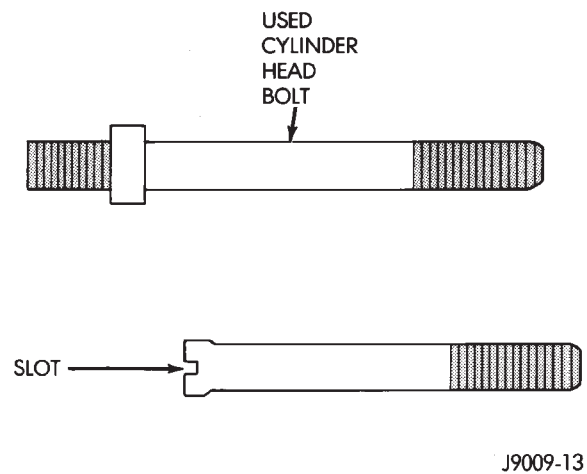

Fig. 4 Fabricate Alignment Dowels
- (1) Fabricate two engine cylinder head alignment dowels from used head bolts (Fig. 4). Use the longest head bolt. Cut the head of the bolt off below the hex head. Then cut a slot in the top of the dowel to allow easier removal with a screwdriver.